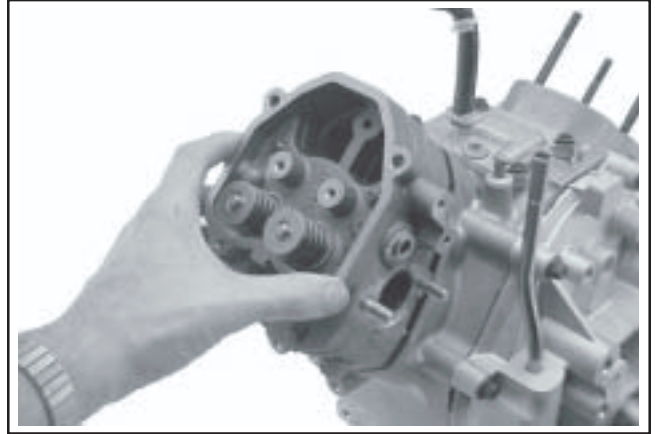

Figure 11-34. Installing Cylinder Head.
4. Install the #1 cylinder head onto the #1 side mounting studs. See Figure 11-34.